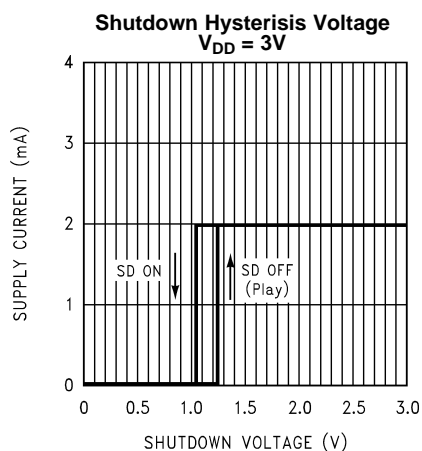
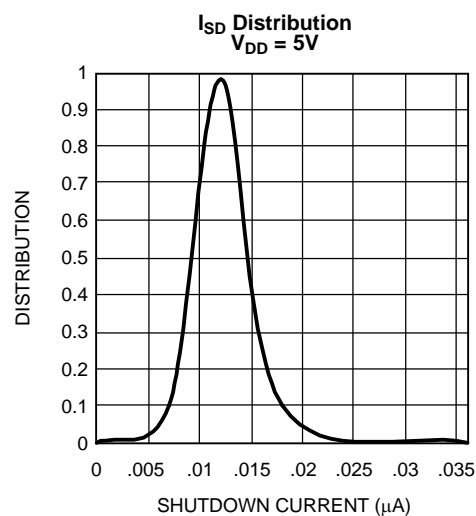

Figure 29.
Figure 30.
- (1) All voltages are measured with respect to the GND pin unless otherwise specified.
- (2) Absolute Maximum Ratings indicate limits beyond which damage to the device may occur. Operating Ratings indicate conditions for which the device is functional but do not ensure specific performance limits. Electrical Characteristics state DC and AC electrical specifications under particular test conditions which ensure specific performance limits. This assumes that the device is within the Operating Ratings. Specifications are not ensured for parameters where no limit is given, however, the typical value is a good indication of device performance.
- (3) Datasheet min/max specifications are specified by design, test, or statistical analysis.
- (4) Typicals are measured at  $25^\circ C$  and represent the parametric norm.
- (5) Limits are specified to AOQL (Average Outgoing Quality Level).
- (6) See  $I_{SD}$  distribution values shown in the  $I_{SD}$  Distribution curves,  $V_{DD} = 5V$  and  $V = 3V$ , (Figure 29 and Figure 30, respectively) shown in the Typical Performance Characteristics section.